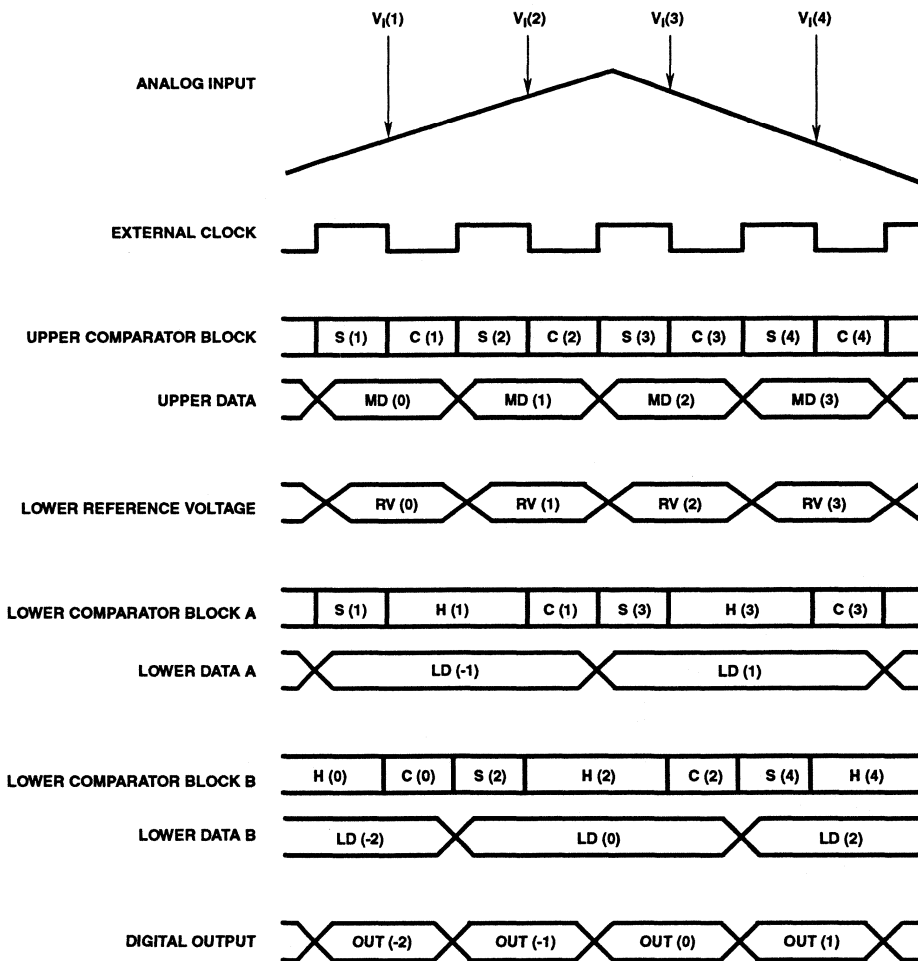

FIGURE 2.
The operation of the part is illustrated in Figure 2. A reference voltage that is between V_{RT} - V_{RB} is constantly applied to the upper 4-bit comparator group. $V_i(1)$ is sampled with the falling edge of the first clock by the upper comparator block. The lower block A also samples $V_i(1)$ on the same edge. The upper comparator block finalizes comparison data MD(1) with the rising edge of the first clock. Simultaneously the reference supply generates a reference voltage RV(1) that corresponds to the upper results and applies it to the lower comparator block A. The lower comparator block finalizes comparison data LD(1) with the rising edge of the second clock. MD(1) and LD(1) are combined and output as OUT(1) with the rising edge of the third clock. There is a 2.5 cycle clock delay from the analog input sampling point to the corresponding digital output data. Notice how the lower comparator blocks A and B alternate generating the lower data in order to increase the overall A/D sampling rate.